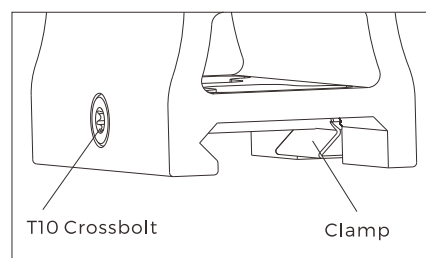

Fig 4
2. To install the optic, loosen the T10 crossbolt with the supplied T10 Torx tool. Attach the optic onto the Picatinny rail in a suitable location. Push the optic forward towards the muzzle and tighten.(Fig4)